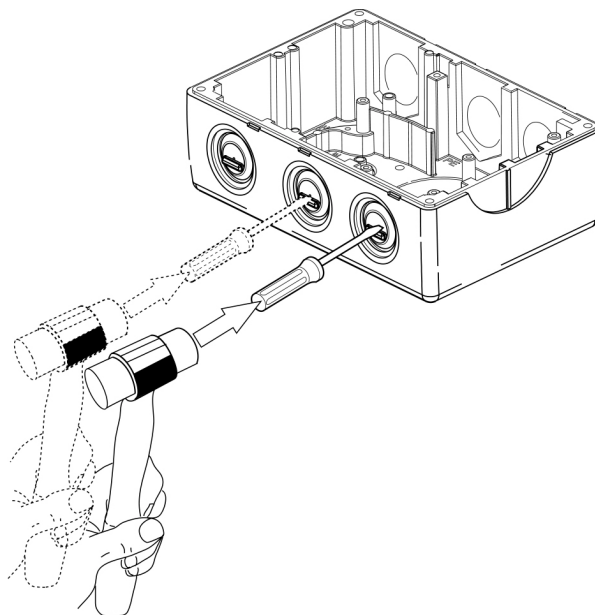

Figure 2-3 Gland Plate or "knockout" Removal
5. Using a hammer and a flat-head screwdriver (as shown in Figure 2-3) strike the gland plate or “knockout”.